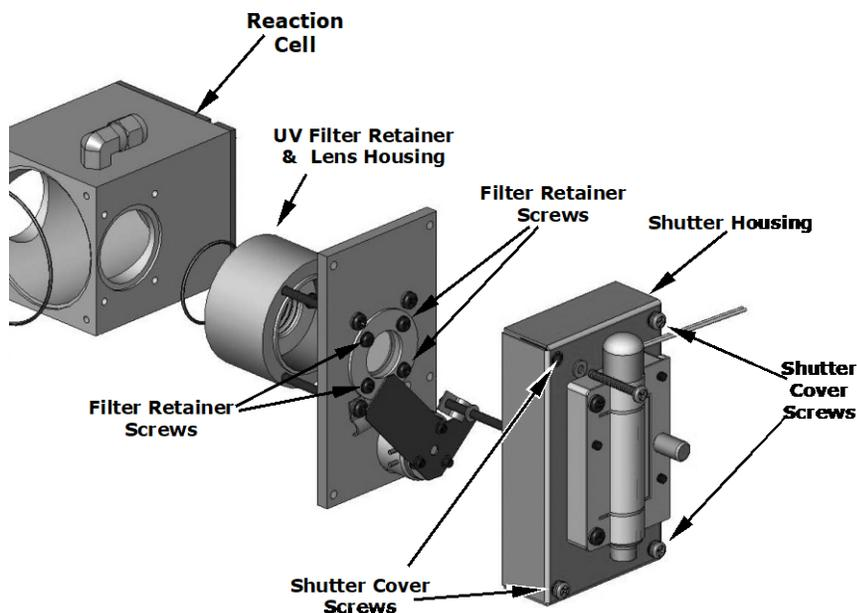

Figure 11-2. Disassembling the Shutter Assembly
- Remove 4 screws from the shutter cover (see Figure 11-2) and remove the cover.
- Remove 4 screws from the UV filter retainer (see Figure 11-2).